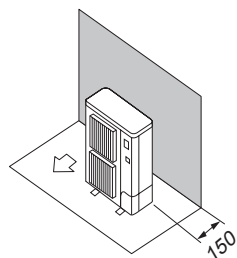

Fig. 3-6
- Obstacles at rear only (Fig. 3-6)